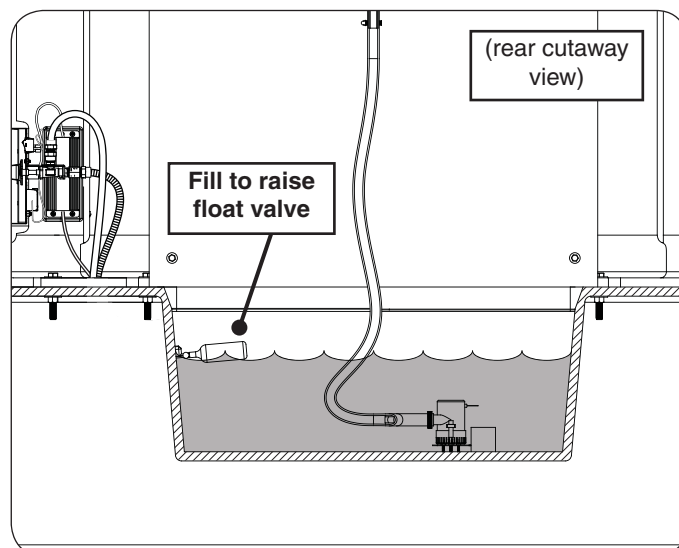

Fig. 25-3 Fill reservoir with water
1. Fill the reservoir with water (or turn on the water supply) until the float valve rises as shown in Fig. 25-3.